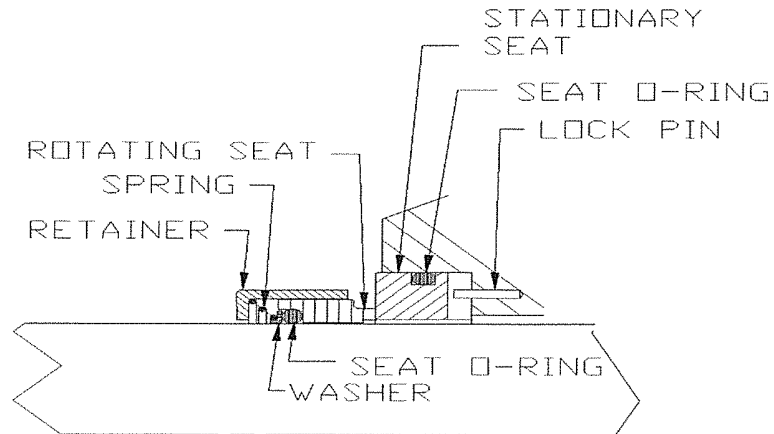

Figure 2 – Type 8VO Mechanical Seal
Type 8VO Mechanical Seals are installed in pump models D3EBC(S), D3EBTC(S), D3EBF(S) and D3EXCS-87-501. Integral mounted D3EIC(S) and D3EX pumps are not fitted with a mechanical seal. Figure 2 is an illustration of the Type 8VO Mechanical Seal.
- a. Pull assembled power (7) from cover (4). Remove Truarc ring (15) from power rotor. Support seal seat adapter subassembly (25) and press power rotor (7) down through ball bearing (11). Slide rotating parts (3, Figure 2) of mechanical seal (16) off power rotor (7).
- b. Pull mechanical seal seat (Figure 2) with O-ring (Figure 2) from seal seat adapter subassembly (25) and remove O-ring from seat, if required. Remove gasket (26) from cover (4) and clean all internal surfaces of cover (4), bearing and seal bore.
Clean and inspect each part for burrs or nicks. Using a buffing wheel, remove all burrs. Particular attention must be given to keyway and Truarc ring groove of power rotor (7) to ensure all sharp edges are removed. Sharp edges on power rotor (7) keyway and truarc ring may cut or shave mechanical seal O-ring (Figure 2) when it is placed into installed position. Wipe all parts with lubricating oil (SAE-30) prior to installing.
- a. With power rotor (7) and mechanical seal rotating assembly (Figure 2) coated with lubricating oil, slide the rotating assembly (Figure 2) on power rotor (7). To start rotating assembly on power rotor, gently push on primary ring (Figure 2) face with thumb or a three finger grip on primary ring, rocking assembly slightly until it starts to slide on power rotor. DO NOT allow assembly to rotate as it slides past the keyway groove. With rotating assembly slid past power rotor keyway assembly may be rotated as it is slid into position next to idler stop (9). Rotating assembly is correctly installed when driving flats on retainer (Figure 2) are fitted over driving flats on idler stop.
- b. Place O-ring (Figure 2) in O-ring groove of mechanical seal seat. Ensure that slot in back face of seal seat (Figure 2) is aligned with pin in seal seat adapter subassembly (25). Press seal seat into seal seat adapter subassembly. Clean seal faces with alcohol and a lint free cloth then apply lubricating oil to running faces of mechanical seal seat (Figure 2) and primary ring (Figure 2). Slide assembled seal seat adapter subassembly (25) on power rotor (7) with seal seat (Figure 2) contacting primary ring (Figure 2).
- c. Support power rotor (7) and press ball bearing (11) on power rotor (7), pressing only on bearing inner race until bearing just passes truarc ring groove in power rotor. Install truarc ring (15) on seal seat adapter subassembly (25) with drain opening in cover (4). Install gasket (26) into cover (4), then install assembled power rotor in cover (4). DO NOT damage gasket (26) when installing assembled power rotor into cover.
- d. Install O-ring (31) over cover (4) flange. Mesh each idler (8) with power rotor (7) and slide assembly in pump. Align cover bolt holes with pump bolt holes and install retainer (12) and bolts (6). Tighten bolts (6) to a torque value of 70 lbs.- inch (± 5 lbs.- inch) [8 newton-meters (± 0.5 newton meters)].
- NOTE:** Cover (4) aligned with drain in seal seat adapter subassembly (25), is equipped with a drain port that prevents fluid being pumped from contaminating ball bearing (11) if mechanical seal failure occurs. Install cover (4) on pump so that drain opening will be down when pump is installed.
- f. Install key (13) and coupling hub on power rotor. Install pump on driver and check alignment as described in Installation, General Operation, Maintenance, and Troubleshooting Manual for Three Screw and CIG Series Pumps (Manual Number SRM00046). Prime pump to expel all air prior to starting.